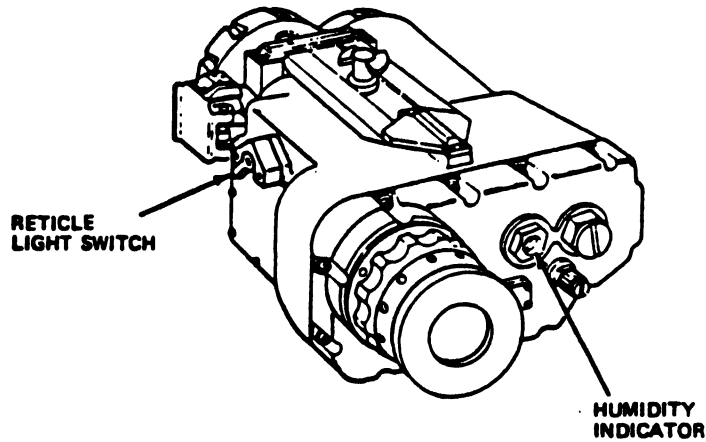

Fig 2-13. Location of reticle light switch and humidity indicator.
Step 5. Ensure that the RETICLE LIGHT switch is set to OFF, and the 30-percent section of the humidity indicator is blue (fig 2-13).